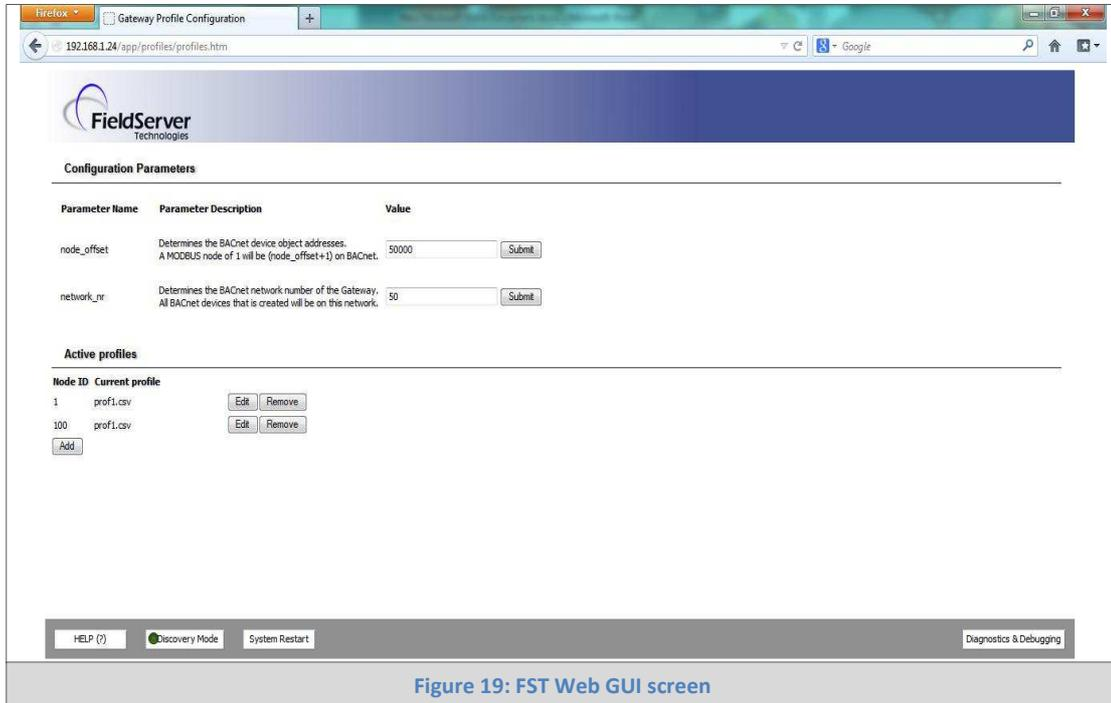

Figure 19: FST Web GUI screen
- Open PC web browser enter the default IP address of the ProtoNode 192.168.1.24 determine if the ProtoNode is up and communicating. Figure 19 is the main landing page for the ProtoNode.